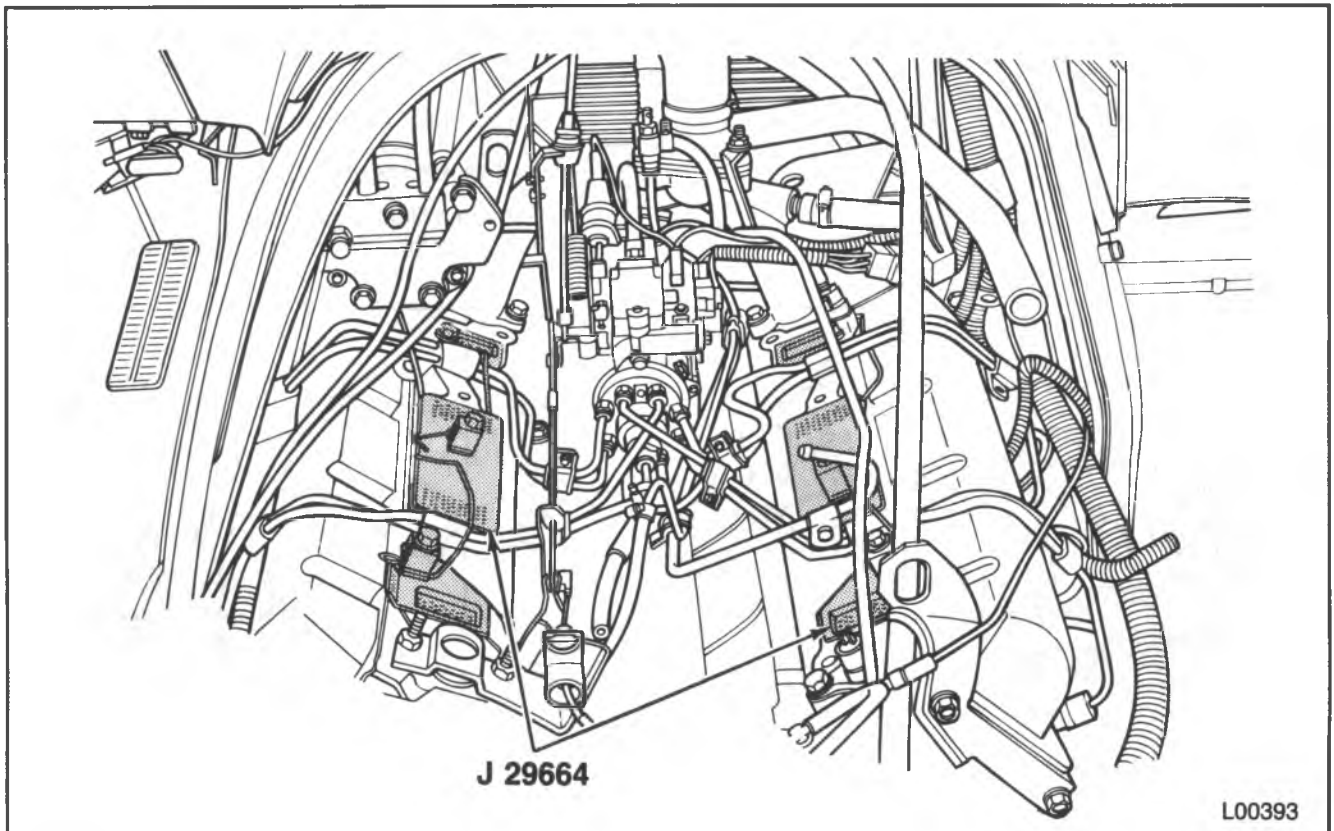

Figure 2 — Protecting Intake Ports
Remove or Disconnect (Figure 2)
- If any further service work is to be done, cover the intake ports with J 29664 (figure 2).